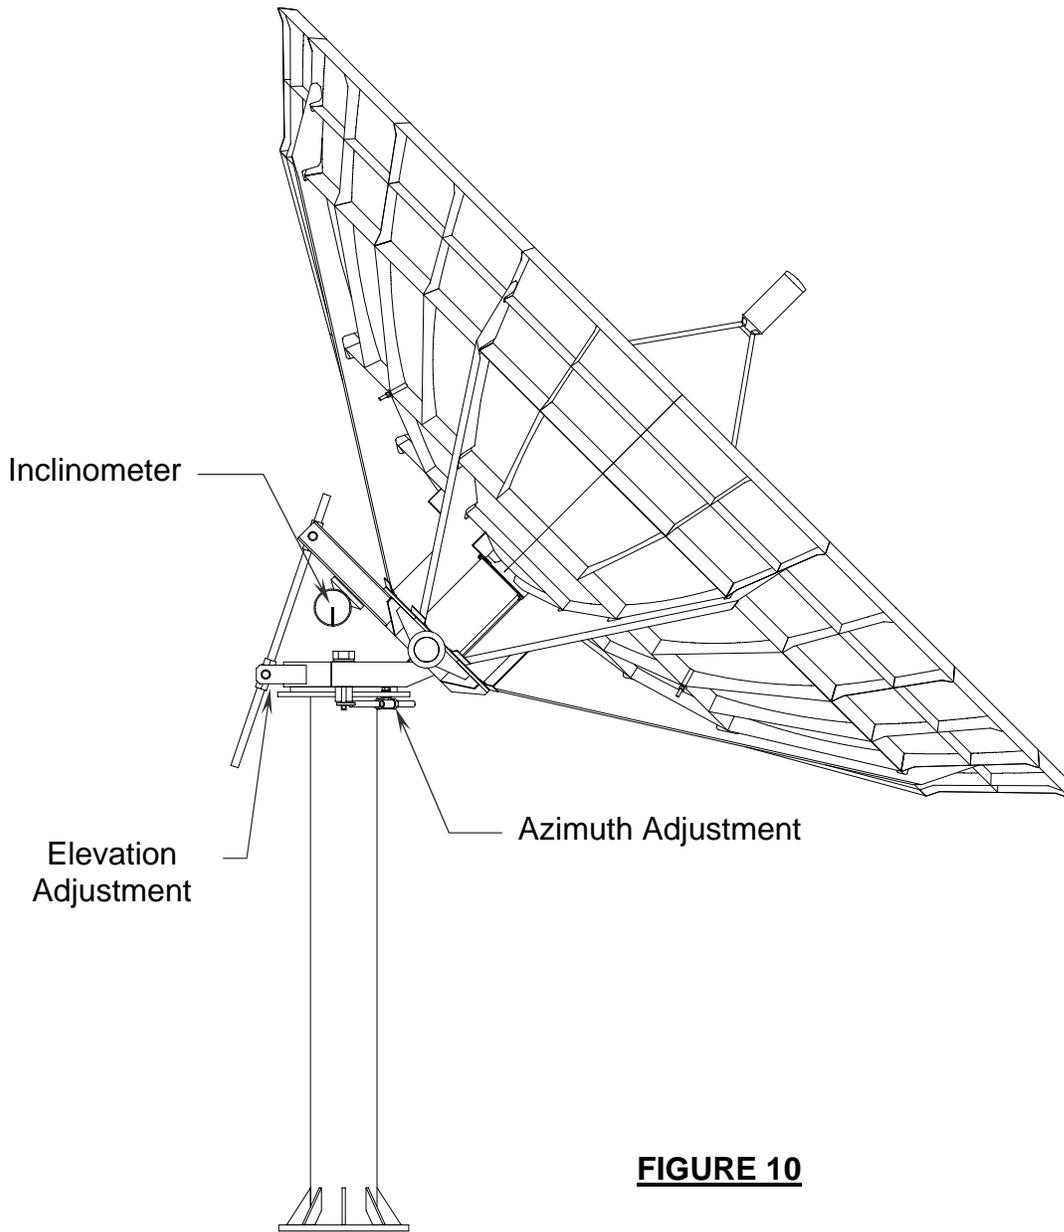

FIGURE 10
1. Set the elevation angle by rotating the 1-1/4" nuts on the elevation adjustment rod. Measure the angle by placing an inclinometer on the reflector hub. See Fig. 10.
2. The correct elevation angle is set, rotate the antenna in azimuth by removing the 1" hardware (4 places) in the positioner plate. See Fig 10.